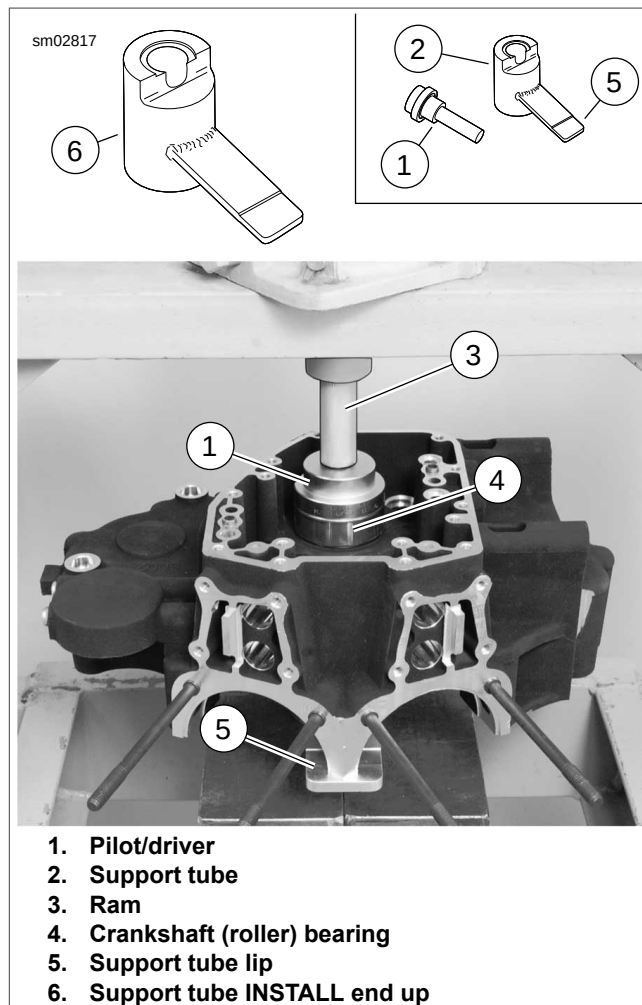

Figure 3-133. Right Crankshaft (Roller) Bearing Installation
1. See Figure 3-133. Obtain CRANKSHAFT (ROLLER) BEARING REMOVAL/INSTALL PILOT/DRIVER (Part No. HD-44065-1), CRANKSHAFT (ROLLER) BEARING DRIVER SHIM (Part No. HD-42720-4) and CRANKSHAFT (ROLLER) BEARING REMOVAL/INSTALL SUPPORT TUBE (Part No. HD-44065-4).
2. Spread a thin film of clean H-D 20W50 engine oil on O.D. of **new** bearing (4).
3. Place support tube (2) on press table with the INSTALL end up. The support tube is stamped to provide proper orientation.
4. Place SHIM (Part No. HD-42720-4) on support tube (2).
5. With cam compartment side facing upward, position crankshaft bearing bore over support tube. Lip on support tube (5) must contact edge of crankcase as shown. This allows curved portion of inboard crankcase to contact top curved portion of support tube (2).
7. Slide pilot/driver (1) through bearing into support tube.
8. Center pilot/driver under ram (3) of press. Apply pressure to pilot/driver until resistance is felt and bearing is bottomed on the support tube.